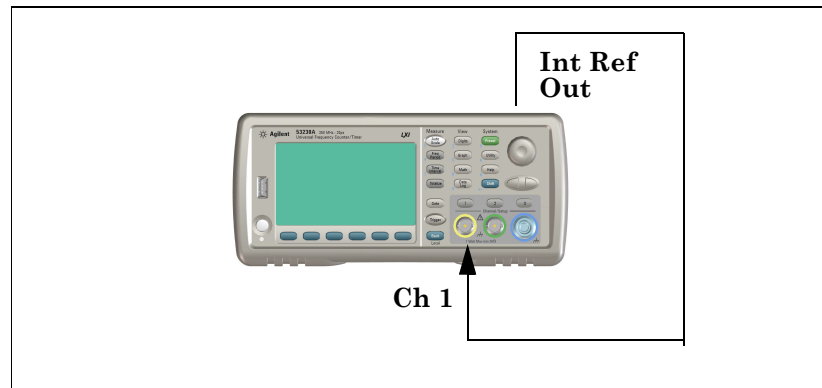

Figure 1-1. Operational Verification Setup for Keysight 53210A/220A/230A
- 1 **Connect the counter’s rear-panel *Int Ref Out* as shown in Figure 1-1 to the front panel Channel 1 input connector.**